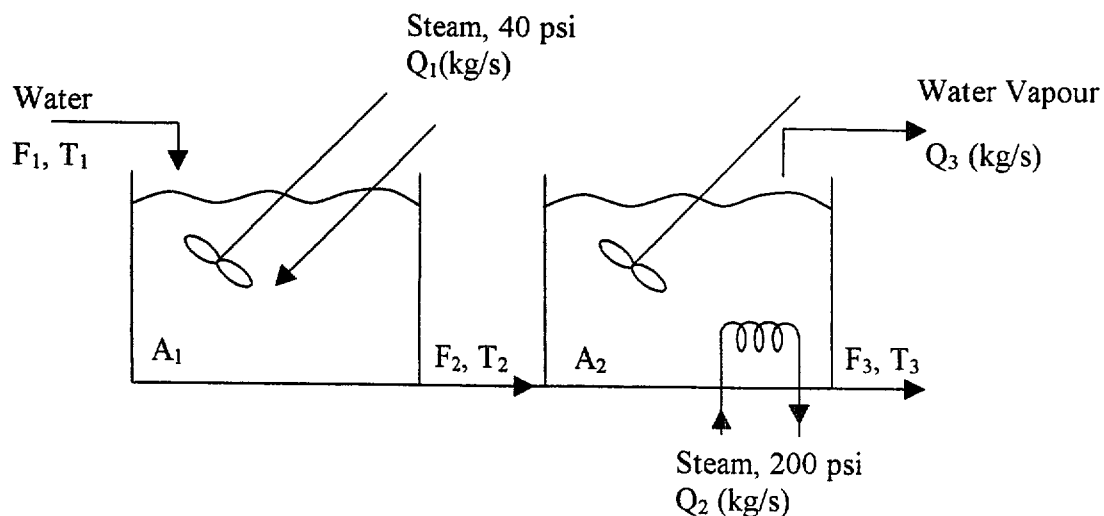

Figure 1
- d) Consider the system shown in figure 1. For tank 1, steam is injected directly into the liquid water. Water vapour is produced in the second tank. The effluent flowrates are proportional to the liquid static pressure that causes their flow.  $\lambda_{v1}$  and  $\lambda_{v3}$  are the heats of condensation at the pressure in the first tank and of vaporisation in the second tank, respectively, and  $\Delta H_{v2}$  is the heat of condensation in the steam coil.